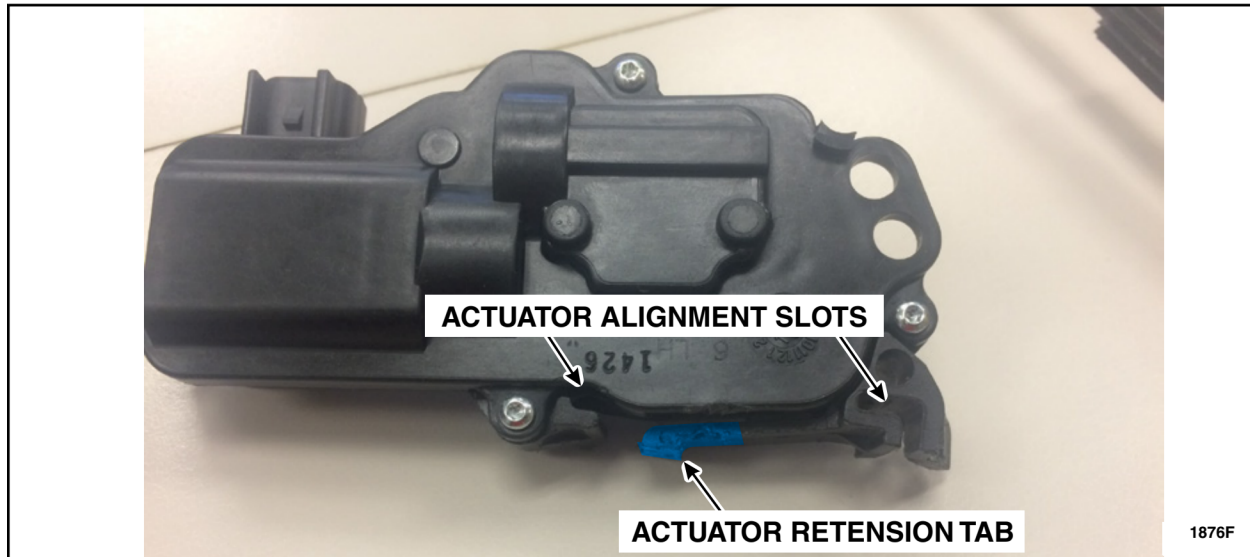

FIGURE 13
16. Remove the door lock actuator by using a flat blade screwdriver. Release the retention tab, on the actuator, from the notch on the door latch while wiggling the actuator off of the door latch alignment brackets. See Figures 13 and 14.
18. Install a *new* door lock actuator by aligning the actuator alignment slots with the door latch alignment brackets. Slide the actuator onto the brackets while aligning the actuator arm pin into the door latch lock lever. An audible click can be heard as the door lock actuator retention tab seats behind the door latch retention tab notch. See Figures 13, 15 and 16.